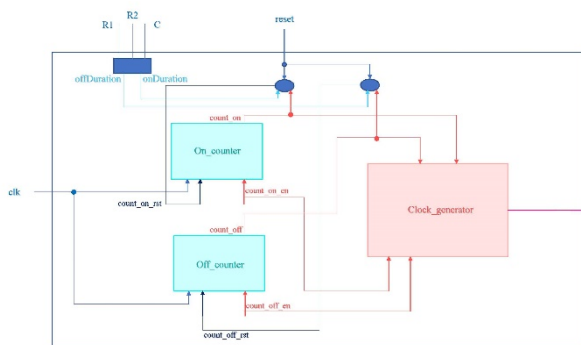

Figure 10
- A clearer picture of Figure10 exists in Project/Part2 folder.